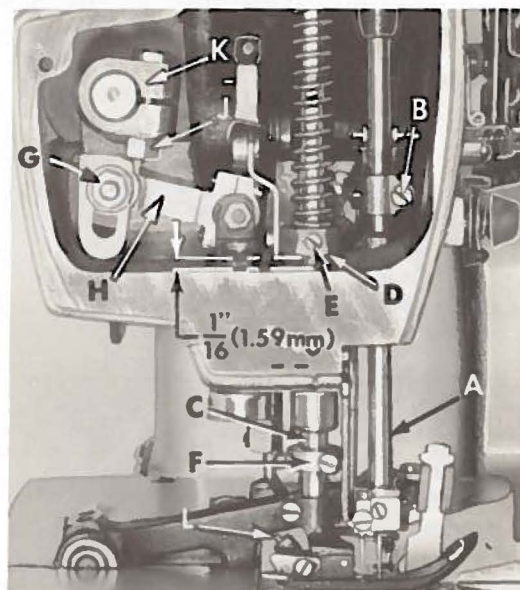

Fig. 4
Align the needle bar (A, Fig. 4) and set to height, using the proper test pins and test plate of the right gauge. See chart below.
If test plate and test pins are not available, insert a new set of needles (Type and Size as required) and align the needle bar so the needles center in the needle holes of throat plate. To align needle bar, loosen needle bar clamp screw (B, Fig. 4) and turn bar as required. Tighten clamp screw.
The height of the needle bar (A, Fig. 4) is correct when the top of the left 602 stitch needle's eye is $3/64$ inch (1.19 mm) below the underside of the front looper, when the point of looper, moving to the left, is even with the left side of this needle. If adjustment is necessary, loosen screw (B) and reposition needle bar (A) up or down as required and retighten screw. Care must be taken not to disturb the alignment of the needle bar while making this adjustment, as the needles are to have equal clearance on both the right and left sides of the needle slots in throat plate.
The height of the presser bar (C, Fig. 4) is set correctly if it is possible to remove the presser foot when the foot lifter lever
(B, Fig. 10) is fully depressed. Also there should be approximately 1/16 inch (1.59 mm) clearance between lower surface of the presser bar connection and guide (D, Fig. 4) and the bottom surface of head opening in the bed when the foot lifter lever is released and the presser foot resting on the throat plate, with the feed dog down below the throat plate.
If adjustment is needed, turn handwheel in operating direction until the needle bar is in the low position. Loosen screw (E, Fig. 4), then, while holding presser foot down on the throat plate surface, pry up presser bar connection and guide with a screwdriver to obtain the 1/16 inch (1.59 mm) setting and retighten screw. Check setting by turning handwheel so that needle bar is in its high position and see if
Set the presser bar stop collar (F, Fig. 4) so that the presser foot does not contact the spreader when raised.
The arc travel of the spreader should be set at $9/16$ inch (14.29 mm) for gauge Nos. 5-8 and 16-8 on Styles 57900 H and N. This setting should be $5/8$ inch (15.88 mm) for gauge No. 12-12 on Styles 57900 H and N. Measurement is made by placing a scale between the two extreme spreader arc travel points. Adjustment can be made by loosening nut (G, Fig. 4) and moving the connecting link (H) up or down as required to obtain the desired amount of arc travel. Set the connecting link so that its arc travel is equal distance to the center of its arc. This is accomplished by loosening nut (J) and moving the spreader rocker shaft arm (K) to position the connecting link properly.
Regulate the presser spring regulating screw (F, Fig. 13) so that it exerts only enough pressure on the presser foot to feed the work uniformly when a slight tension is placed on the fabric. This is the knurled screw, located directly behind the needle bar in the head of the machine. Turning it clockwise increases the pressure, counter-clockwise acts the reverse. The 401 stitch chaining section of the presser foot has an independent pressure adjusting screw (L, Fig. 4) for best control on feeding out the chain and stopping chain cutting.